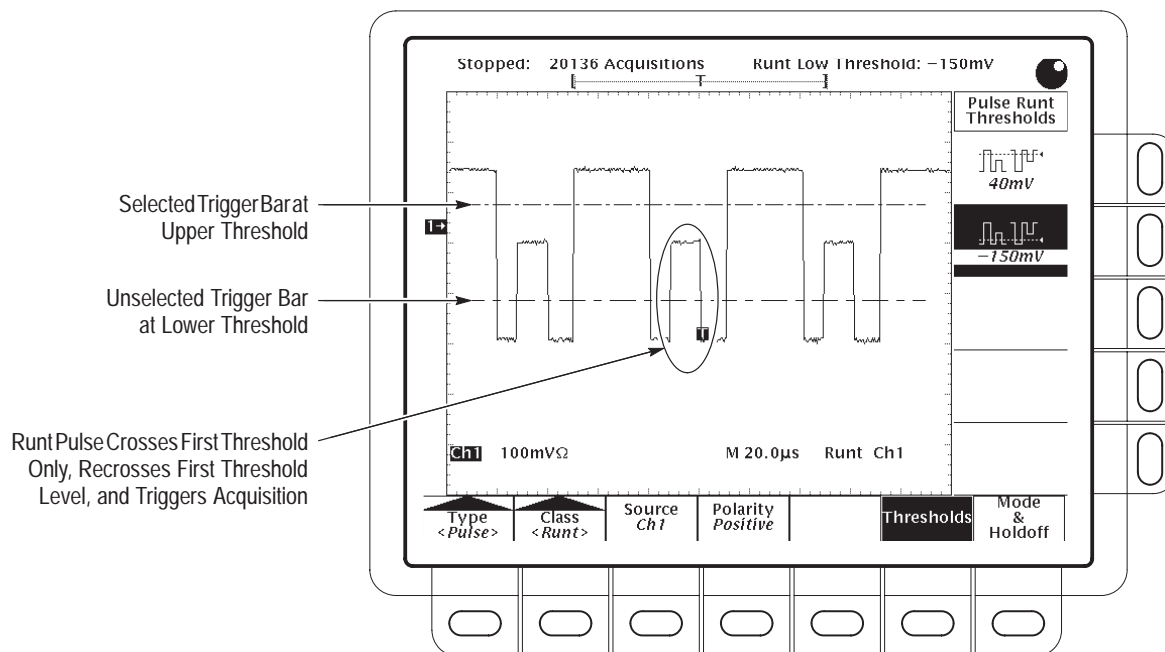

Figure 3-50: Main Trigger Menu—Runt Class
1. Press **TRIGGER MENU** → **Type** (main) → **Pulse** (pop-up) → **Class** (main) → **Runt** (pop-up) → **Source** (main) → **Ch1, Ch2, Ch3, or Ch4** (side). (See Figure 3-50.)
Note the position of the trigger indicator in Figure 3-50. Triggering occurs at the point the pulse returns over the first (lower) threshold going negative without crossing the second threshold level (upper). Be aware of the following considerations when using Runt triggering: